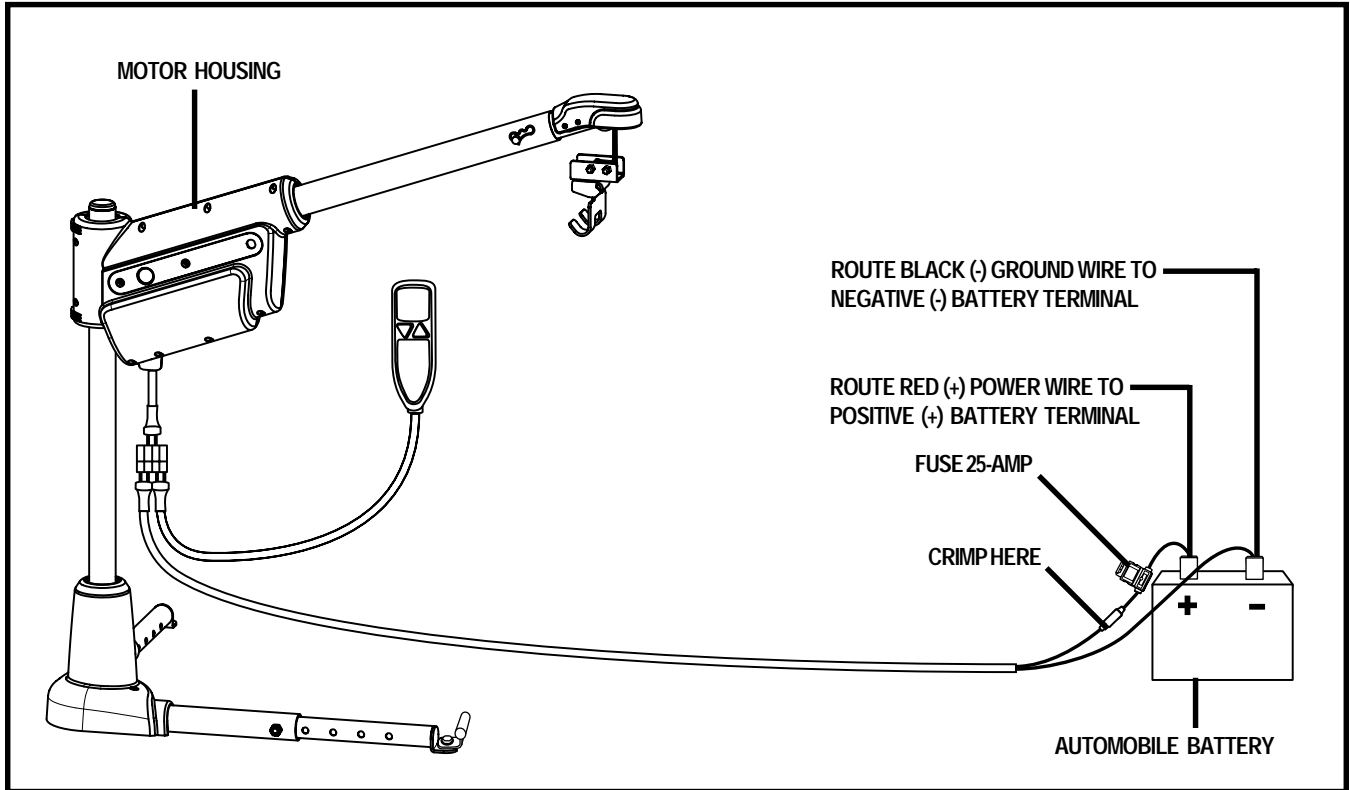

Figure 13. SilverBoom 300 Electrical Wiring Connections
1. Route the lift's long power wire (starting at the lift) through the interior of the vehicle until you reach the automobile battery. **See figure 13 and 13A.** Conceal the wire behind or under the interior panels (there should be existing holes). Be certain that the wire is protected with a rubber grommet when passing it through the metal panels and into the engine compartment. Inside the engine compartment, secure the wire to the firewall and the inner fender with the supplied plastic wire ties. Use care not to cause abrasions to the power wire. It is important to secure the power wire at various points along its run.
NOTE: *If installed in a trunk, disconnect the black-red power harness (see figure 13 or 13A) and remove the motor housing and upper post and place it in an area where it will be secure. The height of the boom-arm will not allow the trunk to close.*